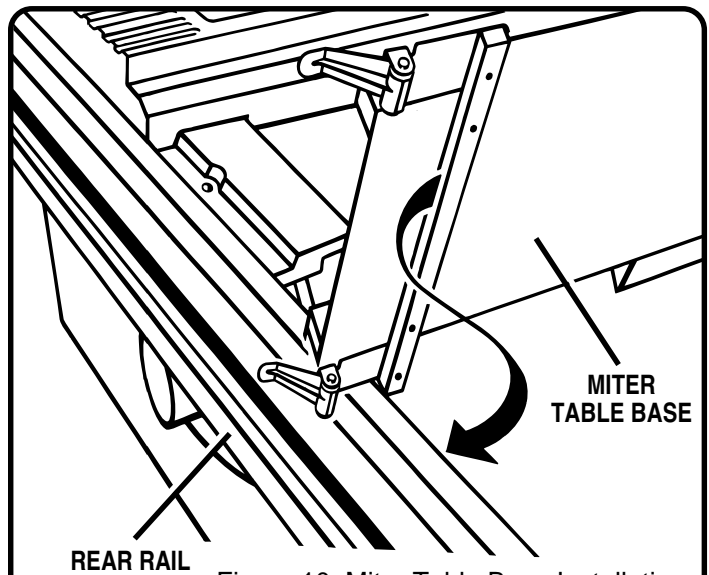

Figure 10: Miter Table Base Installation
1. Install the sliding miter table assembly over the front and rear rails. *See Figure 10.* Check that it slides easily on the rails. Push both front miter locking clamps down evenly on each side to secure. Repeat for both rear miter locking clamps.